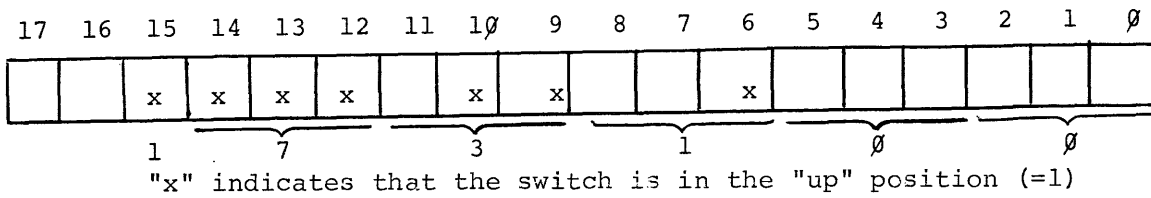

Figure 1-6 Console Switch
3. Set the Switch Register to 1731008; (see Figure 1-6).